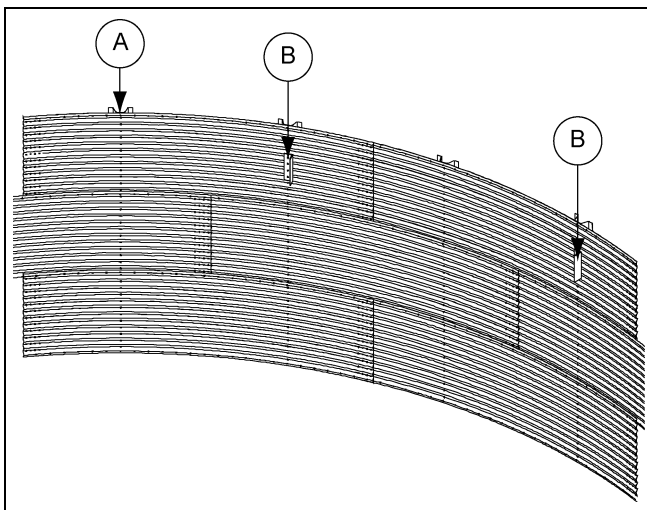
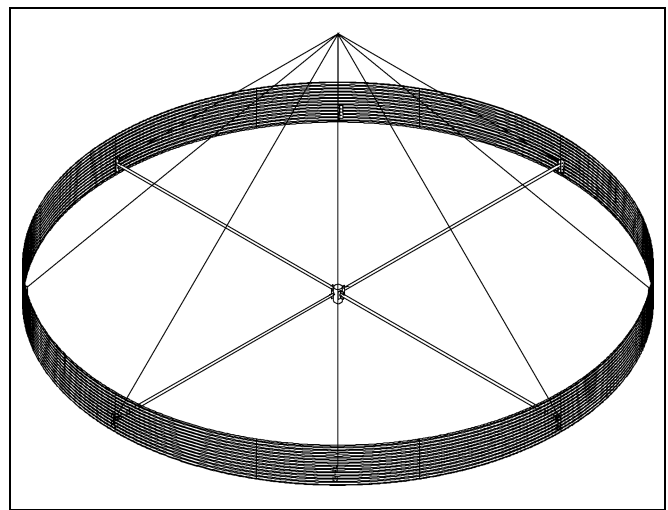

Figure 18A
Figure 18B
- a. Twelve (12) lifting brackets should be attached at the stiffeners. At least one bracket on every other stiffener should be used. These would typically be attached in the third ring from the bottom of the tank. Brackets should attach to a minimum of four (4) bolts through the stiffener. Attach cables to the lift brackets and to the crane hook, which has been lowered through the center ring opening. Cables should be sized to handle the entire weight of the bin. Make all lift cables of equal length before the bin is lifted. *(See Figure 18A and Figure 18B.)*